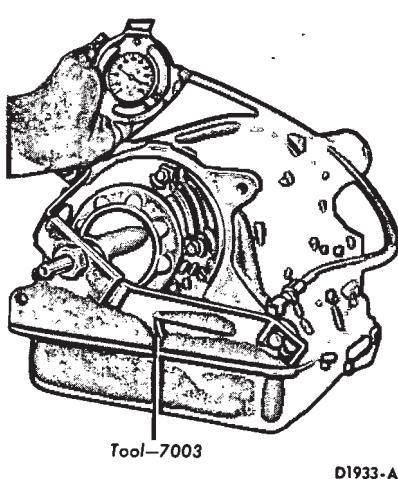

FIG. 14—Bench Testing Tool Installation—Typical
5. Install the pressure gauge (77820 or T57L-77820-A) as shown in Fig. 14.
Turn the front pump at 75-100 rpm and note the gauge readings. The pressure readings on the bench test must be within the limits as outlined in Figure 14, for the engine idle check.